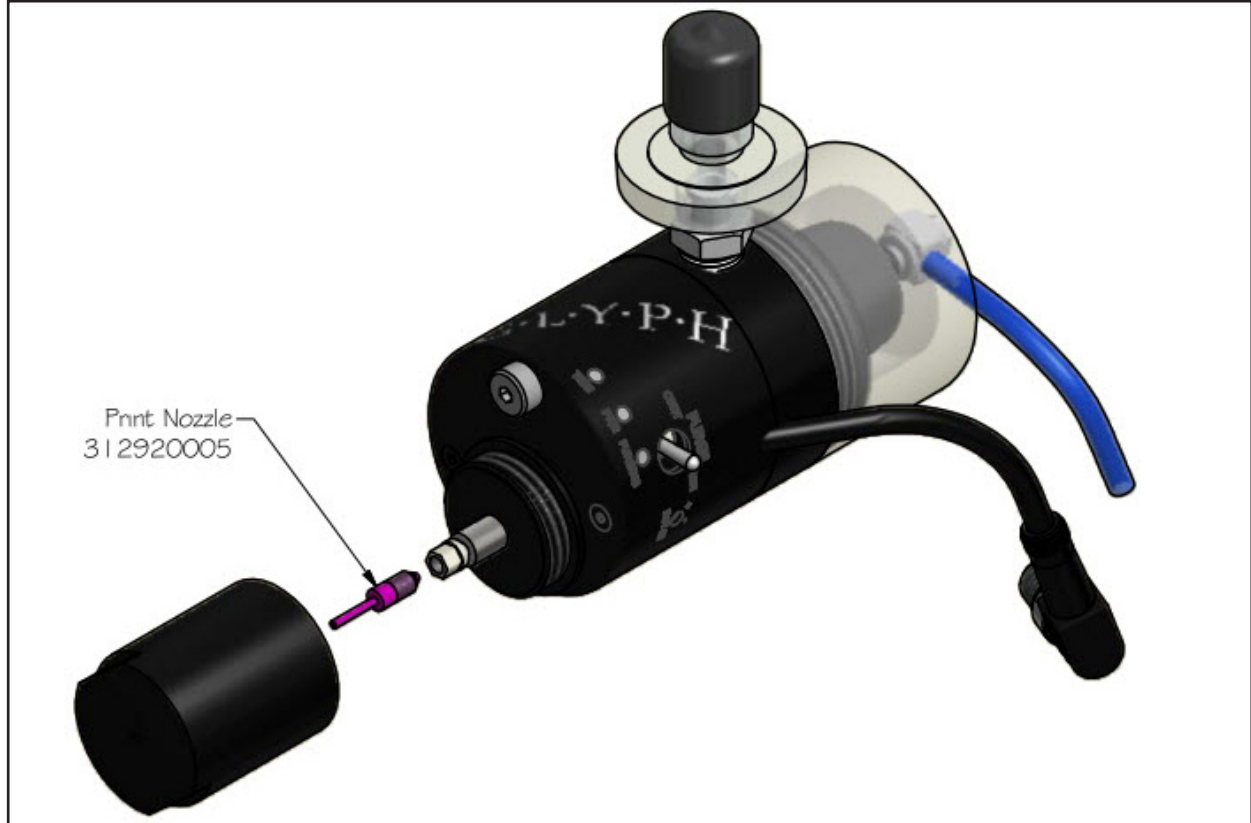

Fig. 1.7
2. If this does not solve the problem, remove the nozzle housing and gently unscrew the entire nozzle. (See Fig. 1.7)